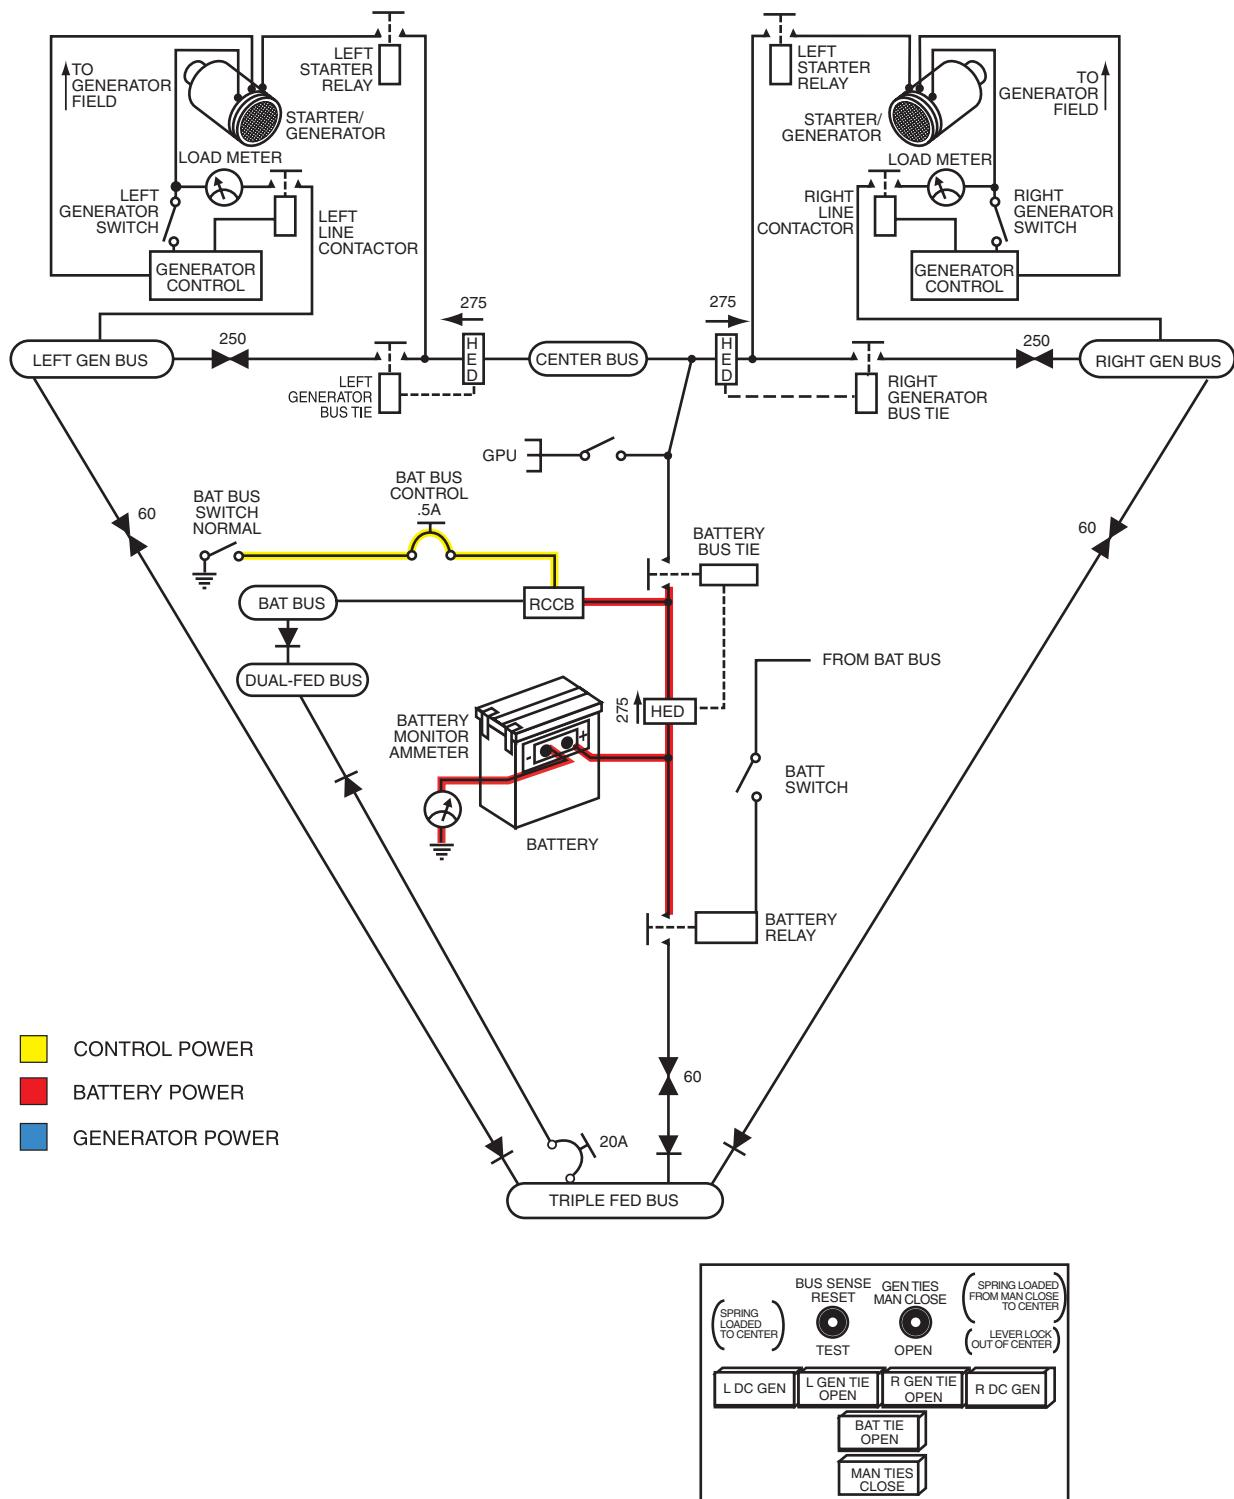

Figure 2-43 King Air 350 Power Distribution—Battery Switch OFF, Battery Bus Switch Emergency OFF
- Figure 2-43—King Air 350 Power Distribution—Battery Switch OFF, Battery Bus Switch Emergency OFF